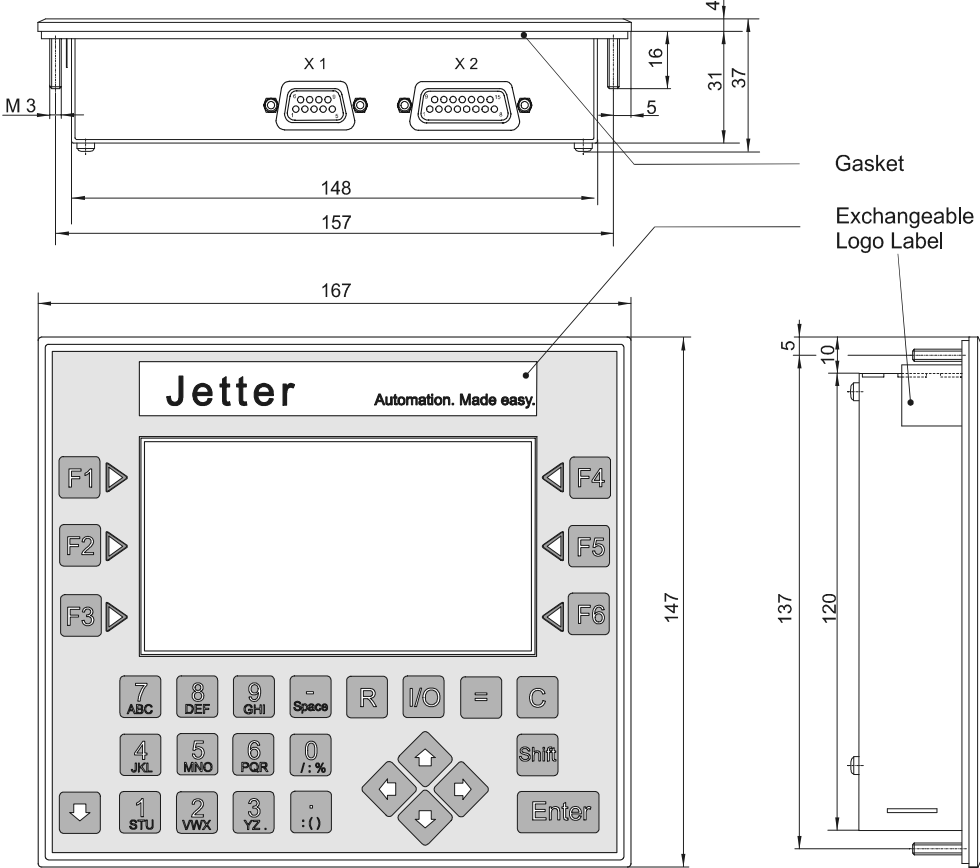

Fig. 4: Physical Dimensions LCD 19
- Check the gasket for damages, see fig. 4, page 18.